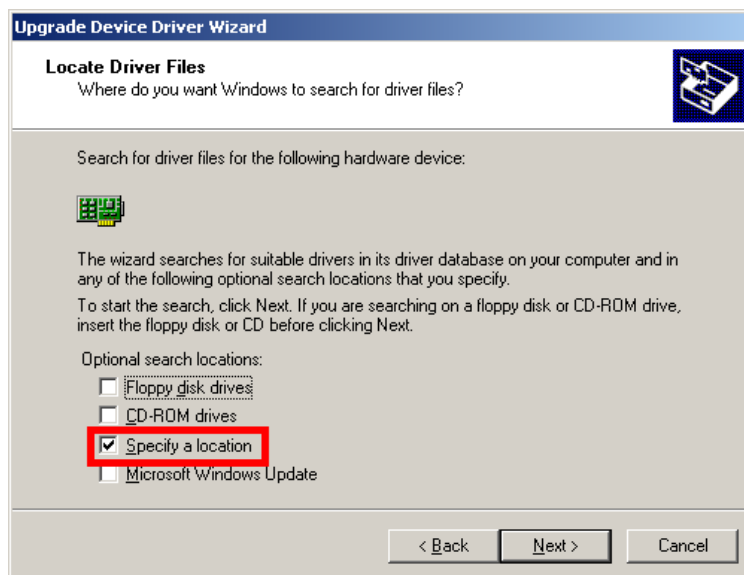

Figure 5-39: Locate Driver Files
Step 8: Select “**Specify a Location**” in the **Locate Driver Files** window (Figure 5-39).